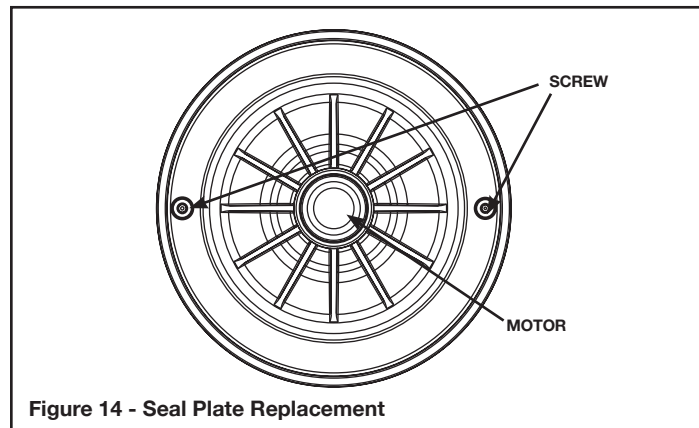

Figure 14 - Seal Plate Replacement
2. Carefully slip seal plate over shaft. Do not disturb seal position in seal plate. The seal plate must be orientated during assembly so the two screw holes are on a horizontal line across the motor shaft (Figure 14). This placement should be done to ensure proper draining and priming.